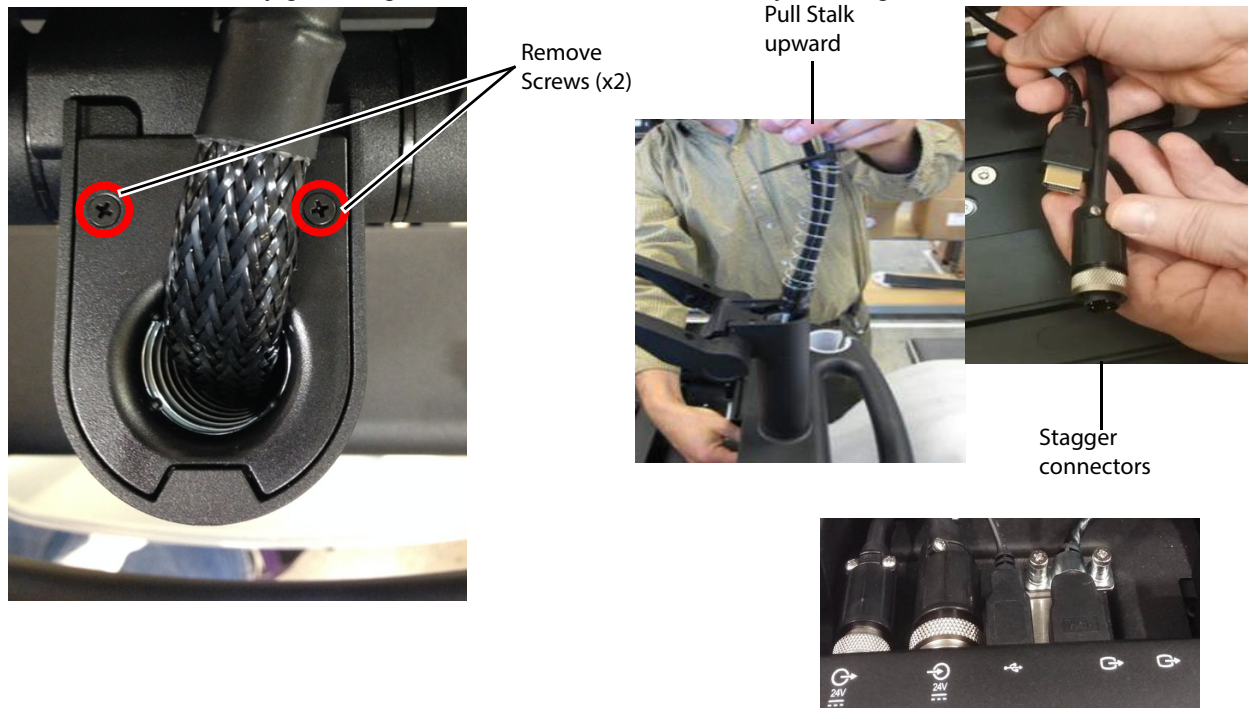

Figure 6.4 Cable Stalk Removal
- 1 Remove two screws from the top plate of the stalk assembly. Refer to Figure 6.4